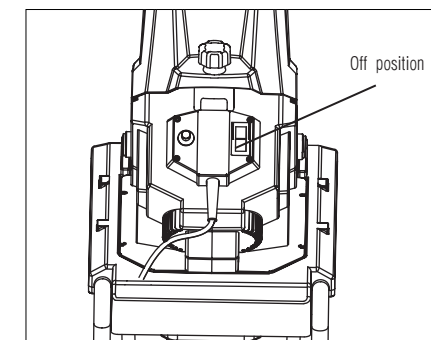

Fig. 6
3. To switch off, simply press the On/Off switch to the OFF position (Fig. 6).